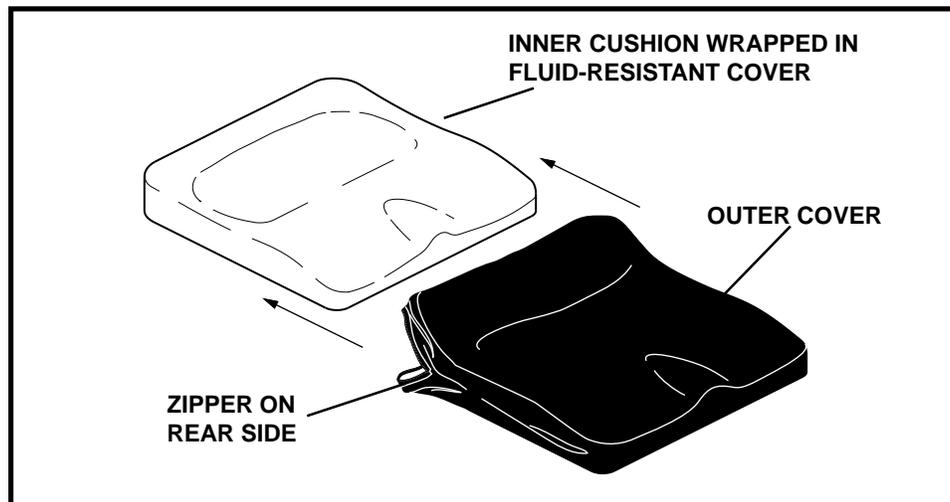

Figure 2. Synergy Structure
1. Locate the zipper on the rear side of the outer cover. See figure 2.